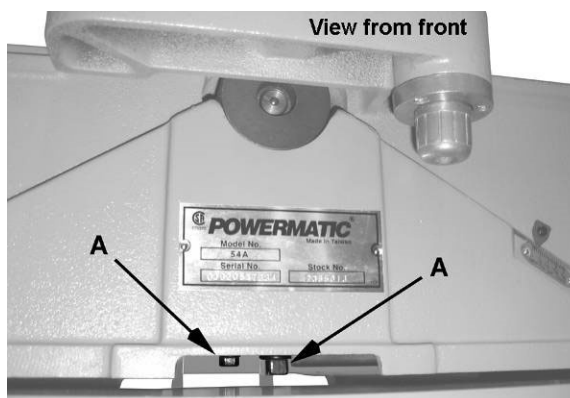

Figure 47
6. Using an 8mm hex wrench, loosen two hex cap screws underneath *fence base casting* (E) that secure the casting to the *table* (F). Remove the *fence base casting* and set aside.
7. Remove four *screws* and *washers* (A) securing the *belt guard* (B). Remove the *belt guard*.
8. Using a 14mm wrench, remove two *screws* (A, Fig. 47) and *lock washers* that secure the cutterhead bearing housings to the base.